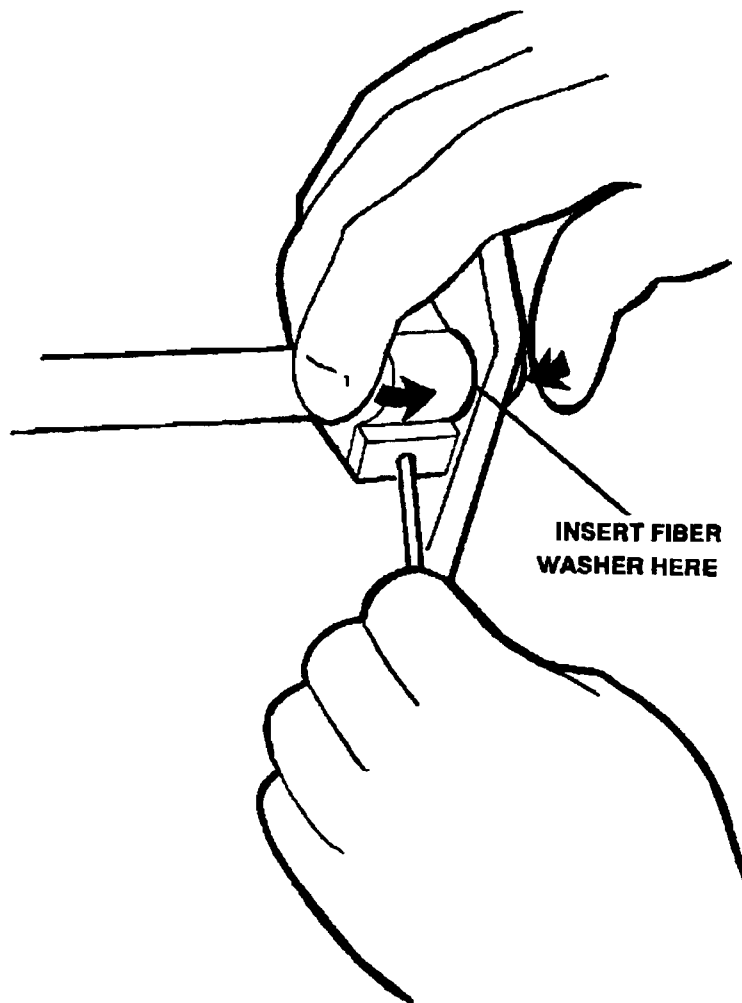

Figure 15. Tightening the Platen Handle on the Shaft
- h. Apply pressure to the right end of the shaft and opposite pressure on the gap handle while tightening the set screw on the bottom of the handle. Tighten the set screw securely. (see Figure 15). This eliminates all sideways play in the shaft.